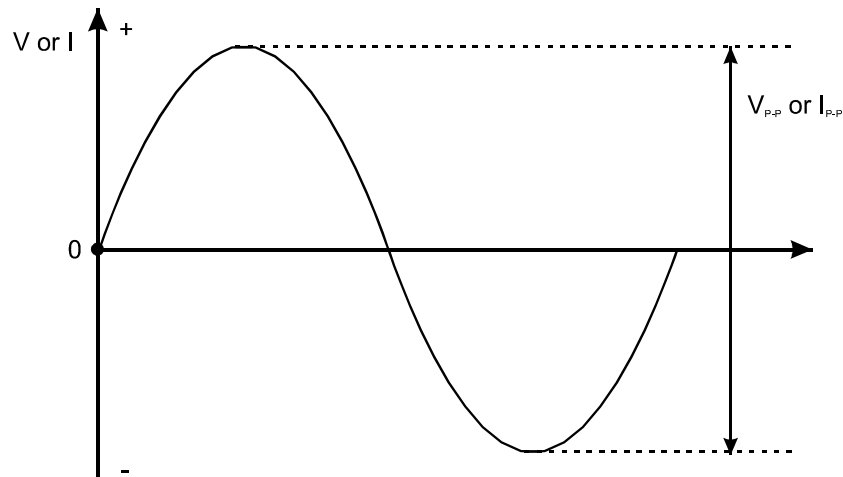

Figure 1.20
- **Peak-to-peak value.** This is the voltage or the current, measured between the positive and negative peak of the waveform. Obviously, the peak-to-peak value is two times greater than the peak value. The peak-to-peak value is shown in Figure 1.20. These values are most commonly used when taking measurements with oscilloscopes. This is discussed further in Section 6.3.7.